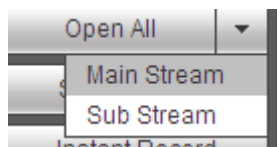

Figure 5-11
- Section 3: Open all. Open all button is to enable/disable all-channel real-time monitor. Here you can select main stream/sub stream too. See Figure 5-11.